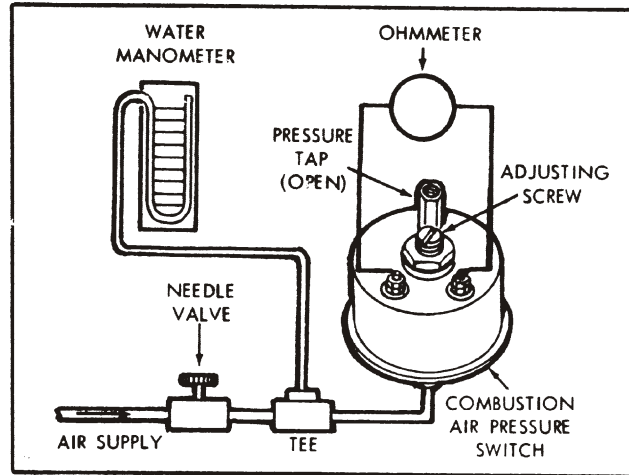

FIGURE 4-3 Test Set-Up for Combustion Air Pressure Switch
- a. Discard all rubber parts, such as grommets, gaskets, etc. These items should always be replaced at overhaul. Also discard the rope gasket (75).
- d. The combustion air pressure switch (31) must respond to delicate pressure changes and should always be checked and/or replaced at overhaul. Refer to Paragraph 4.9, c and Figure 4-3.
(1) Connect an adjustable air pressure line that can be controlled in a range of zero to 5.0 (maximum of water to the switch opening with a water manometer and needle valve in the line ahead of switch.) Switch must be tested in 45 degree position as shown in Figure 4-3, or as mounted on Heater as in aircraft.
(2) Connect an ohmmeter across the switch terminals to determine the exact instant of switch closing.
(3) Apply air pressure allowing it to build up very slowly from zero. The switch contacts should close at 0.5±0.1 inches of water which will be indicated on the manometer.